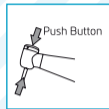

Fig. 4.1
- 1) Insert and lightly turn the bur until it engages with the latch mechanism. (Fig.4.1)